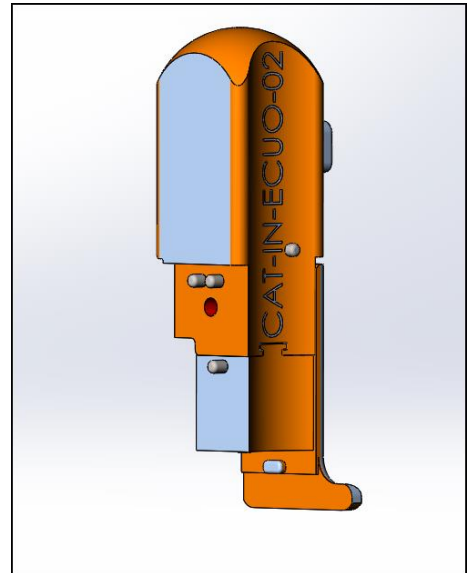

Figure 6
2. Slide the adapter into the slot on the front of the tool until it is flush with the tool surface as shown in **Figure 6**.